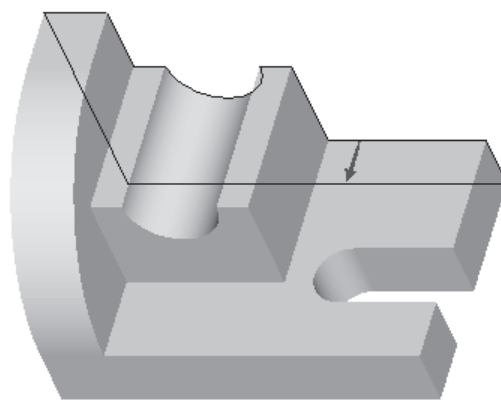

Figure 4-75 Arrow showing the direction of feature creation
4. Flip the red arrow by choosing the **Flip** option to make the arrow point in the direction shown in Figure 4-75.